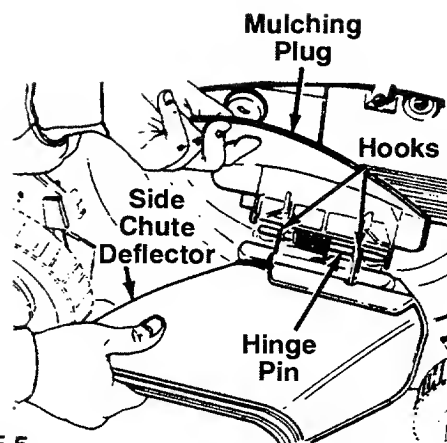

FIGURE 5.
- **To convert your mower from a mulcher to a side discharge mower**, lift the mulching plug. See figure 5. Slide the two hooks on the side discharge deflector under the hinge pin on the mulching plug assembly. Lower the mulching plug.